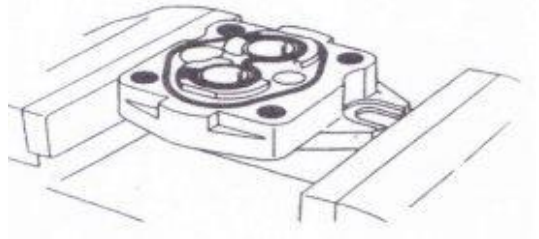

Fig. 5-30
c) Install a new retainer ring on the front end cover of pump. Refer to Fig. 5-30 for the installation direction.